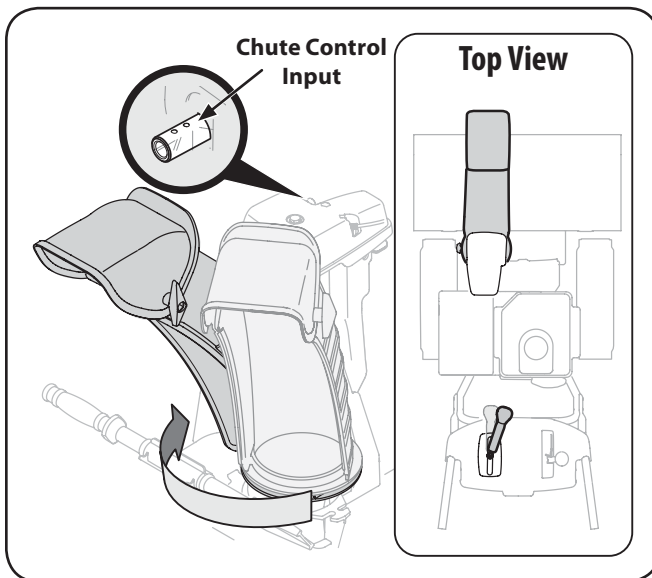

Figure 3-9
- Squeeze the trigger on the joystick and rotate the chute by hand to face forward. The holes in the chute control input will be facing up. See Fig. 3-9.
NOTE: The joystick will be angled slightly to the right at the one o'clock position. See "Top View" in Fig. 3-9.